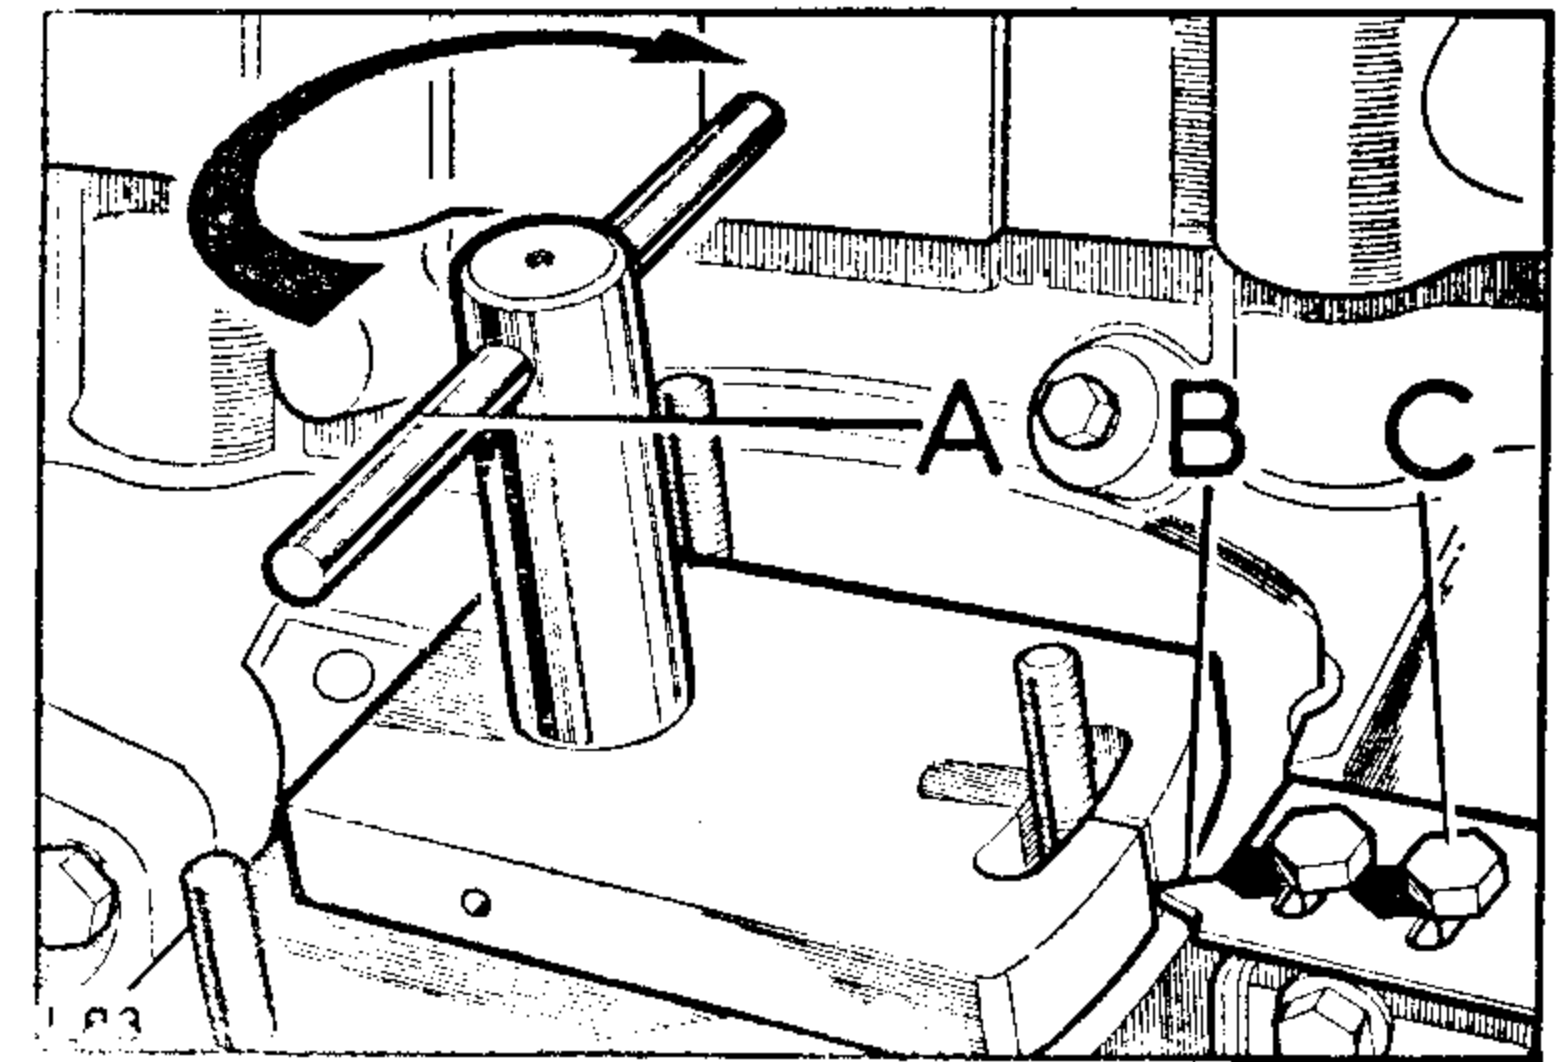

Fig. 27
3. Insert the timing gauge (A) Fig. 27, Rover Part Number 605863, into the driving gear, then twist gauge in a clockwise direction to take up backlash and any wear in the gears. Hold in this position, then, if necessary, slacken off bolts (C) Fig. 27 retaining timing pointer (B) Fig. 27 on side of cylinder block. Adjust pointer so that it coincides with the line on timing gauge.